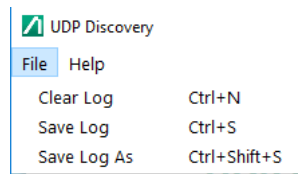

Figure 2-14. Clear History Using the File Menu
2. Click the File menu to display the menu as shown in Figure 2-14.